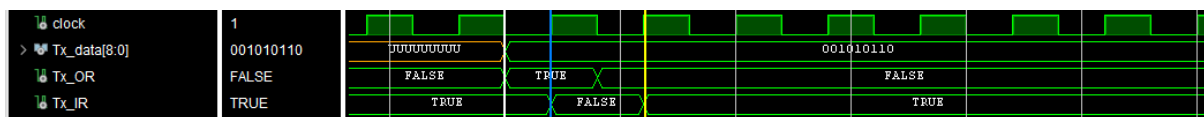

Figure 4: Tx_data IR/OR Handshake Example
The Data channels use an **Input_Ready (IR)**, **Output_Ready (OR)** handshake to read/write data. This is analogous to the AXI-handshake process between Master & Slave devices. A data transaction is only valid when both **IR** and **OR** ports are **true** on the rising edge of **clock**. Figure 4 shows the **IR/OR** handshake for the **Tx_data** input on the core.
The example in Figure 4 is from a testbench, where **Tx_OR** changes on the falling edge of **clock**. This is not required for operation; it is simply a characteristic of simulating a delta-cycle in a testbench environment. In operation, it is expected that **Tx_OR** will be aligned to the rising edge of **clock**.